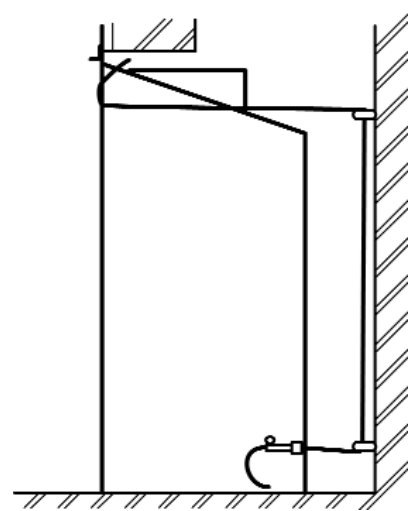

Figure 19. Cable route.
6. Thread the cables through the eyebolts. Return the cables through the holes near the bottom of the hotbox back panel (See figure 19) (**For precast or clay block flue systems return the cables through the slotted holes in the side of the hotbox.**)